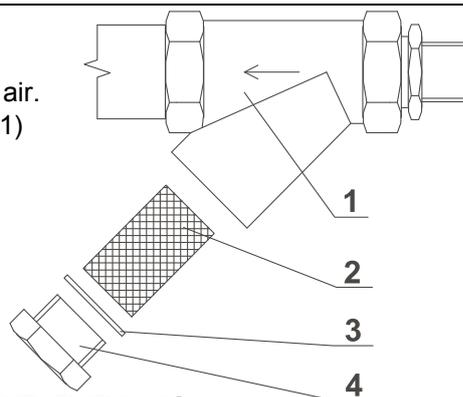

Fig.5.10.
2. Unscrew the filter plug, fig.5.10. pos.4 and remove the filter sieve (2).
4. Put the sieve (2) and gasket (3) back to the filter body (1) and tighten the plug (4).